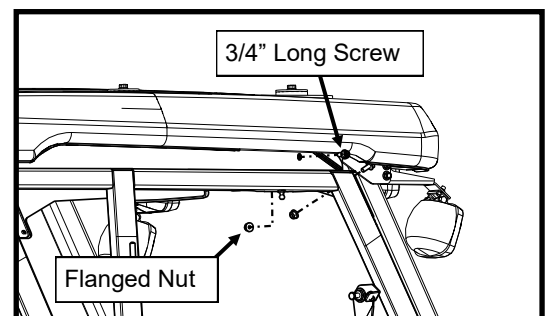

Figure 9.3: Side Frame Bolt
9.3 Fasten the corner of the heater duct to sideframe (see Figure 9.3). Leave hardware loose.